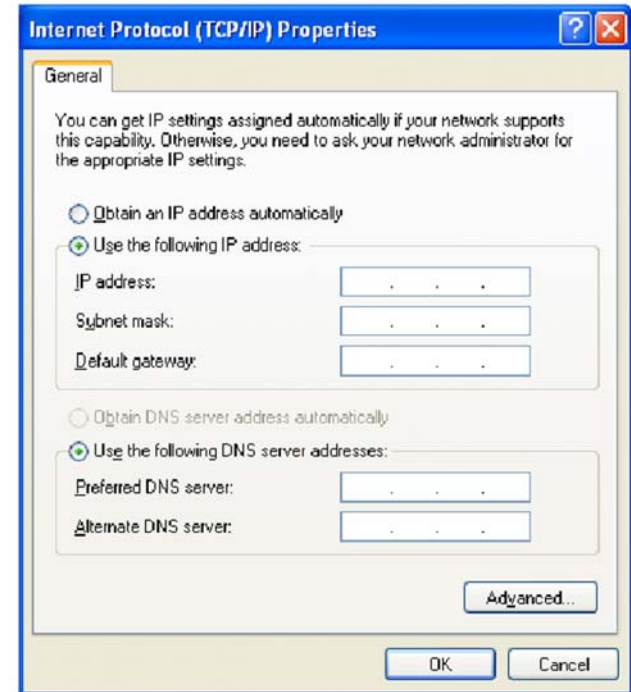

Figure 4 Properties window
4. Select Use the following IP address, Figure 4.